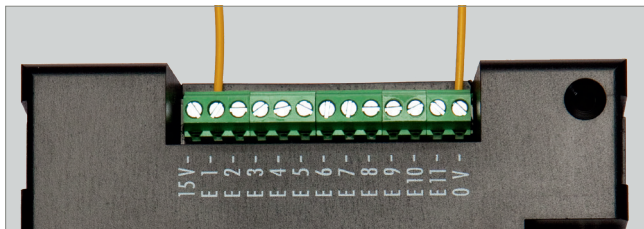

Fig. 4: Checkback contacts
- ▶ Connect one end of the sensor to the ground (0 V) and the other end to the required input (E1 - E11), see Fig. 4.